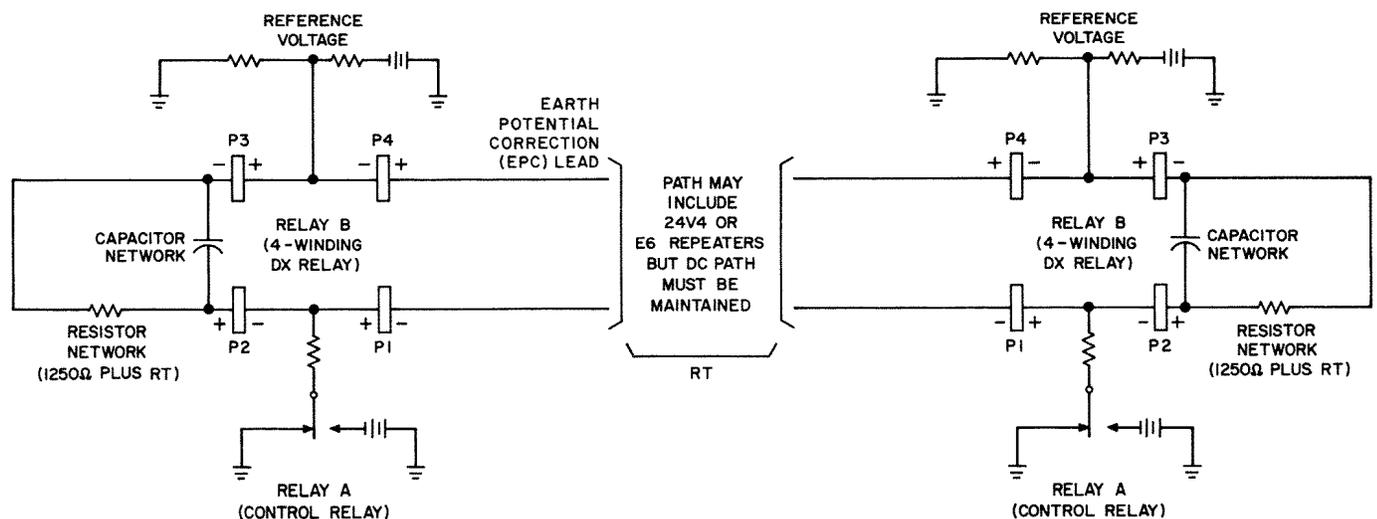

Fig. 1—DX Signaling Circuit Simplified Control Schematic
4.09 The DX signaling circuit (Fig. 1) uses the same cable pair as the talking path. One wire of the pair is used for signaling and the other wire is used for earth potential correction (EPC) and to compensate for any difference in battery voltage between the two PBXs. The DX signaling circuit consists essentially of a polar relay having four windings, a resistor network, and a capacitor network. A circuit is required at each terminal of the trunk circuit. A reference voltage is applied to the junction of the P3 and P4 windings. The value of this reference voltage reflects any ground potential at the terminal and the supply voltage at the terminal. A resistor network of 1250 ohms plus the one-way trunk resistance R_T between DX units balances the current between the P2 and P3 windings and the P1 winding during operation of the control relay. The resistance R_T includes any 24V4 or E6 repeater and a dc path must be maintained. The capacitor network balances the line capacitance to prevent false operation or flutter of the DX relay when its control relay operates. The control relay is not part of the DX unit but connects to ground when idle and to battery supply when busy. During pulsing, the control relay follows the dial pulses. There are four conditions that the two connecting DX signaling units can have: